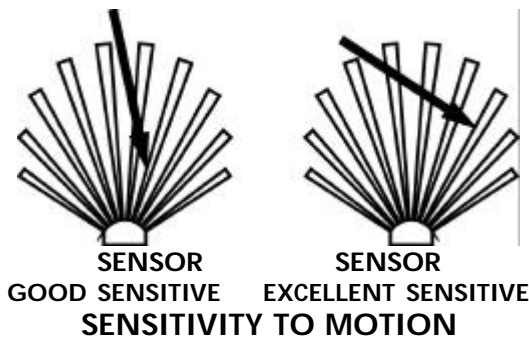

FIGURE 2
- Prior to mounting, keep in mind that the motion sensor is most sensitive to the motion, which is across the detection field and less sensitive to the motion, which moves directly towards the detector. (FIGURE 2)